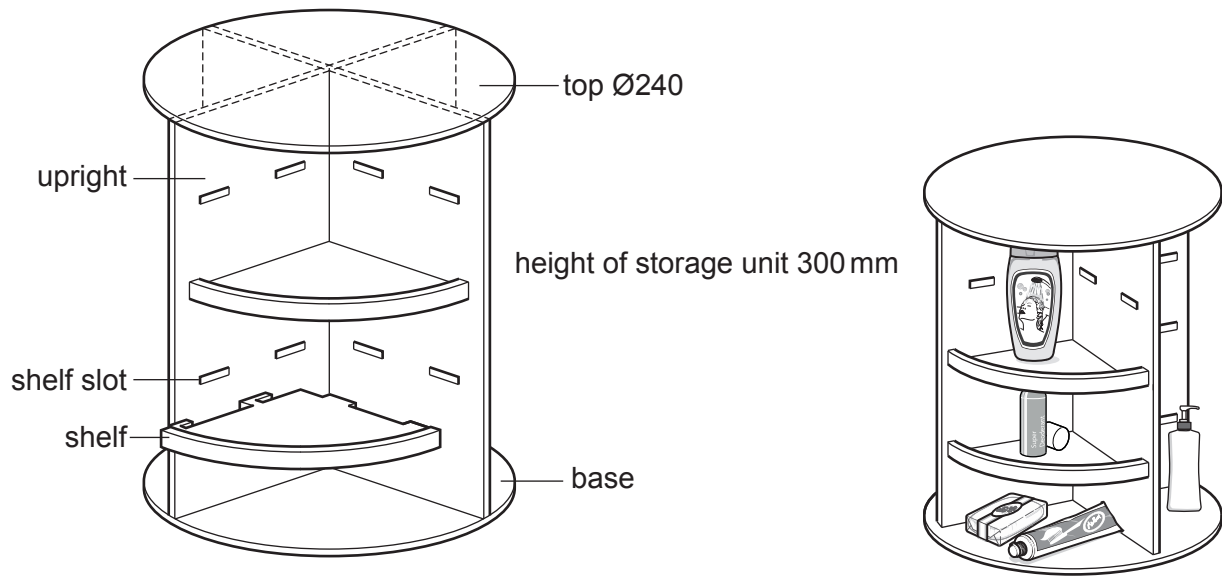

Fig. 12.1
- 12 Fig. 12.1 shows a storage unit with adjustable shelves that will be used in a bathroom. The storage unit is made from acrylic and could be produced in a school workshop by means of hand tools and CAD/CAM.